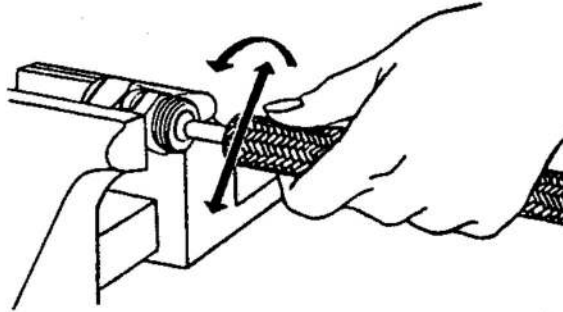

Fig. 3 Pushing the hose onto the nipple
5.3 Size tube and flare braid by placing the nipple hexagon in a vice. Push one end of the hose onto the nipple and work gently in a circular motion as shown in Fig. 3 to aid in separating the wire braid from the tube; remove the hose from the nipple.